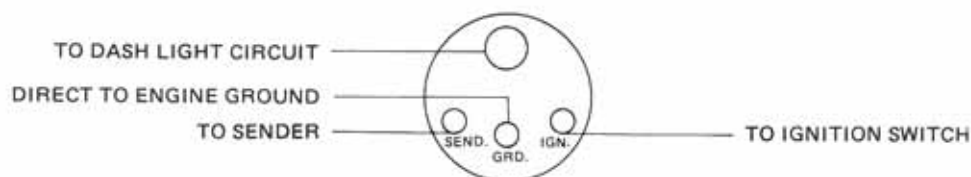

FIGURE 10
5. Connect all wiring as noted in FIG. 10.